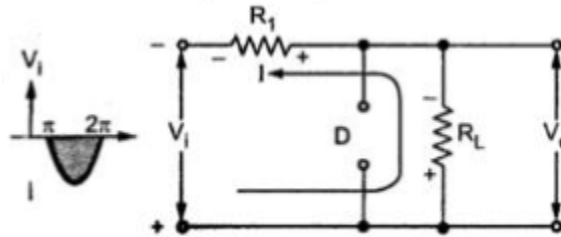

Fig. 2.20 Operation during negative half cycle
- The entire current flows through R_L as shown in the Fig. 2.20.